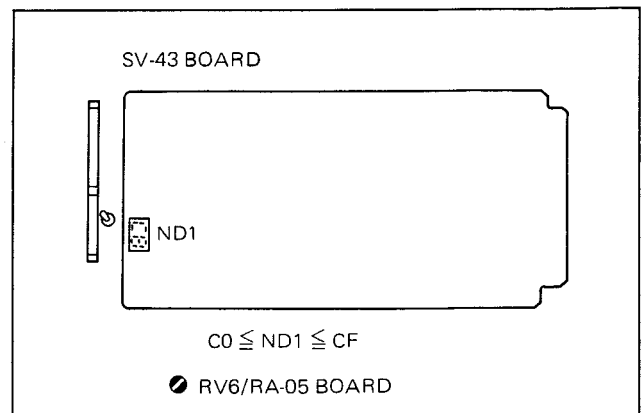

Fig. 3-31. Motor Torque Adjustment Value
d. After motor stop, confirm that the number shown in Fig. 3-31 is indicated by the display element ND1 on the SV-43 board. If necessary, adjust RV6 on the RA-05 board.